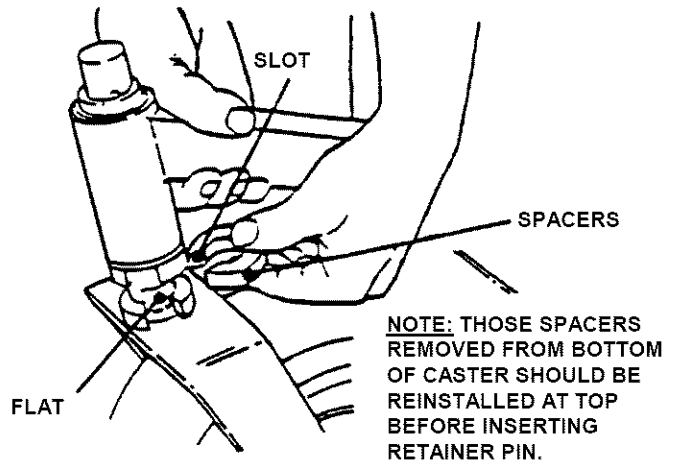

FIGURE 3.13
2. Lift Caster Support while adding or removing bottom spacer. See Figure 3.13.